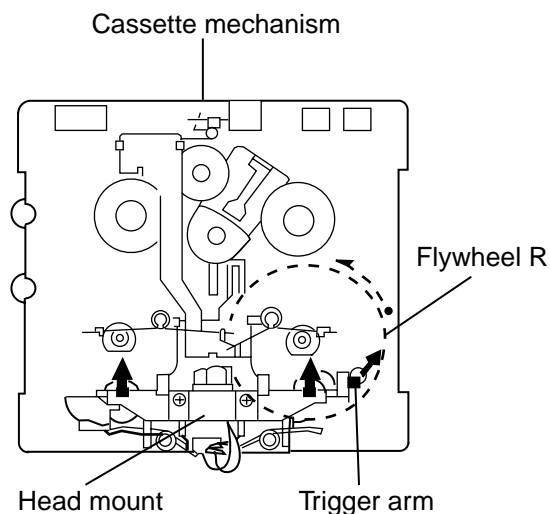

Fig.1 (Mechanism A side)
■ Removing the playback, recording and eraser heads (See Fig.1~3)
1. While shifting the trigger arms seen on the right side of the head mount in the arrow direction, turn the flywheel R in counterclockwise direction until the head mount has gone out with a click (See Fig. 1).